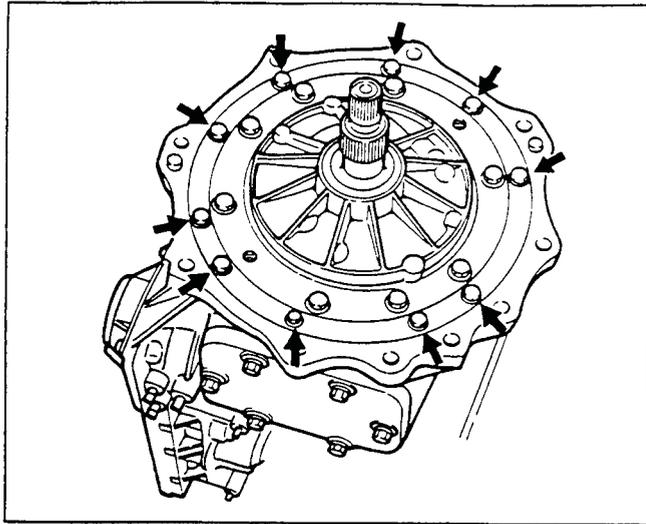

Figure 288. Oil Pump Installation (3)
5. While installing the oil pump, ask someone to hold the retainer so it doesn't float and fix it with bolts. Apply sealing compound (Three Bond 1215 or equivalent) to the flange face of the bolts (figure 288).